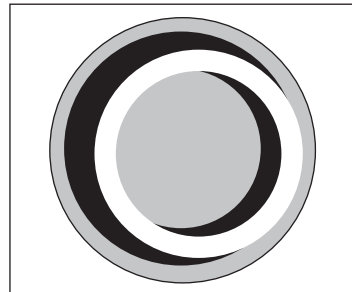

Figure 9
- 7 Looking through the phase contrast centering telescope, rotate the uppermost section of the phase contrast centering telescope until the image is in focus. The image seen through the phase contrast centering telescope should resemble rings superimposed on one another (figures 9 & 10).